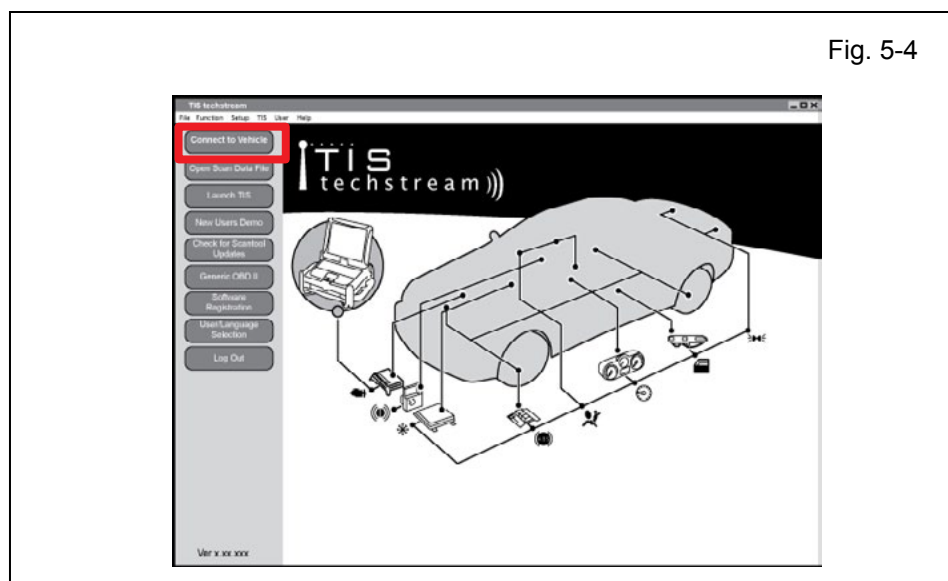

Fig. 5-4
- d. Start the TIS Techstream Application by clicking on the shortcut located on the Desktop. (Fig. 5-4)
- e. Click "Connect to Vehicle". (Fig. 5-4)